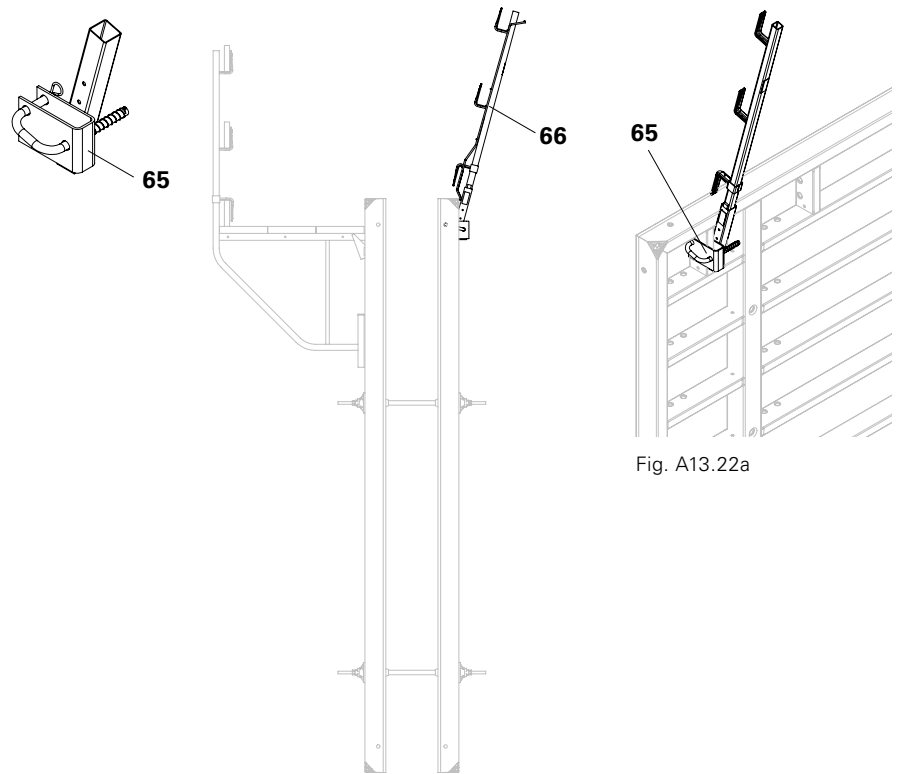

Fig. A13.22
- Guardrail Post Holder TRIO (65)
- Guardrail Post HSGP-2 (66)
- (Fig. A13.22 + A13.22a)